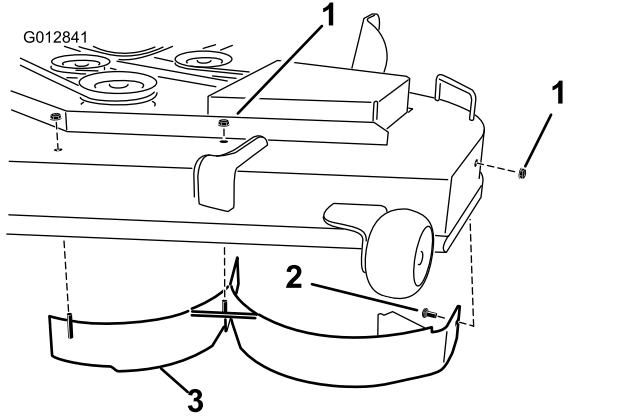

Figure 13
- **For 48-inch decks**, install the left baffle using 3 nuts (5/16 inch) and 1 carriage bolt (5/16 x 3/4 inch) as shown in Figure 13.